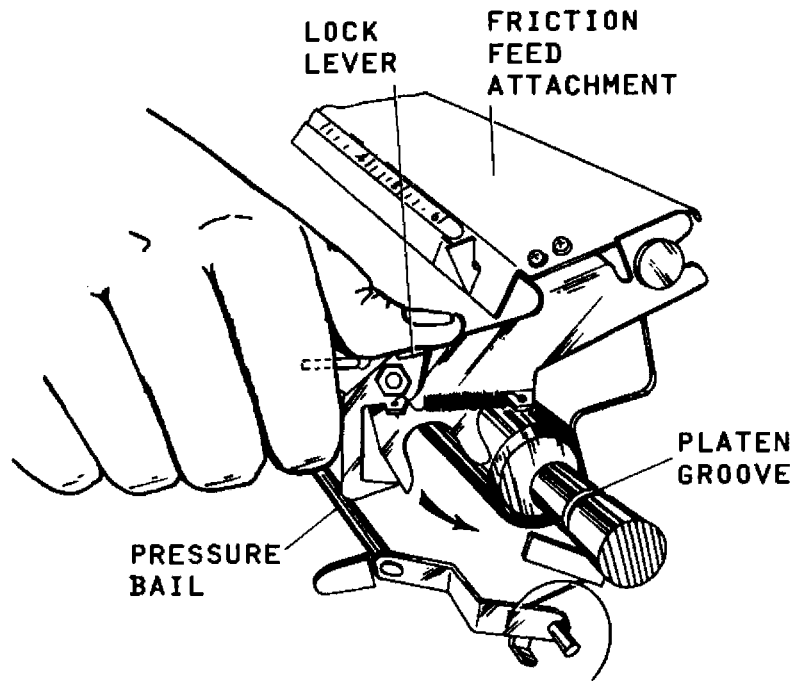

Figure 3-3 Friction-Feed Attachment Removal (Right Side Only)
- c. Press the lock levers and simultaneously raise the assembly upward and toward the rear of the printer as shown in Figure 3-3.